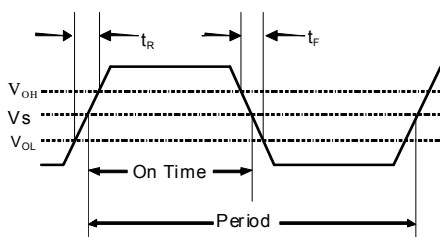
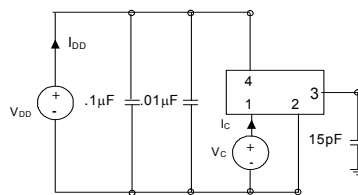

Figure 3. Output Waveform
Figure 4. Typical Output Test Conditions (25±5°C)
2. Figure 3 defines these parameters. Figure 4 illustrates the operating conditions under which these parameters are tested and specified.